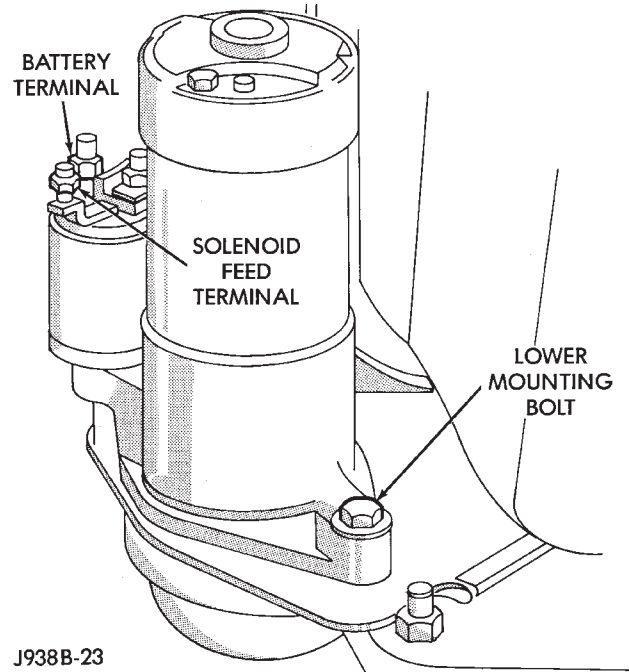

Fig. 6 Starter Motor Removal/Installation (Typical)
- (1) Disconnect negative cable from battery.
- (2) Raise and support vehicle.
- (3) Disconnect battery wire and solenoid feed wire.
- (4) Remove starter lower mounting bolt (Fig. 6).
- (5) Remove starter upper mounting bolt and remove starter.